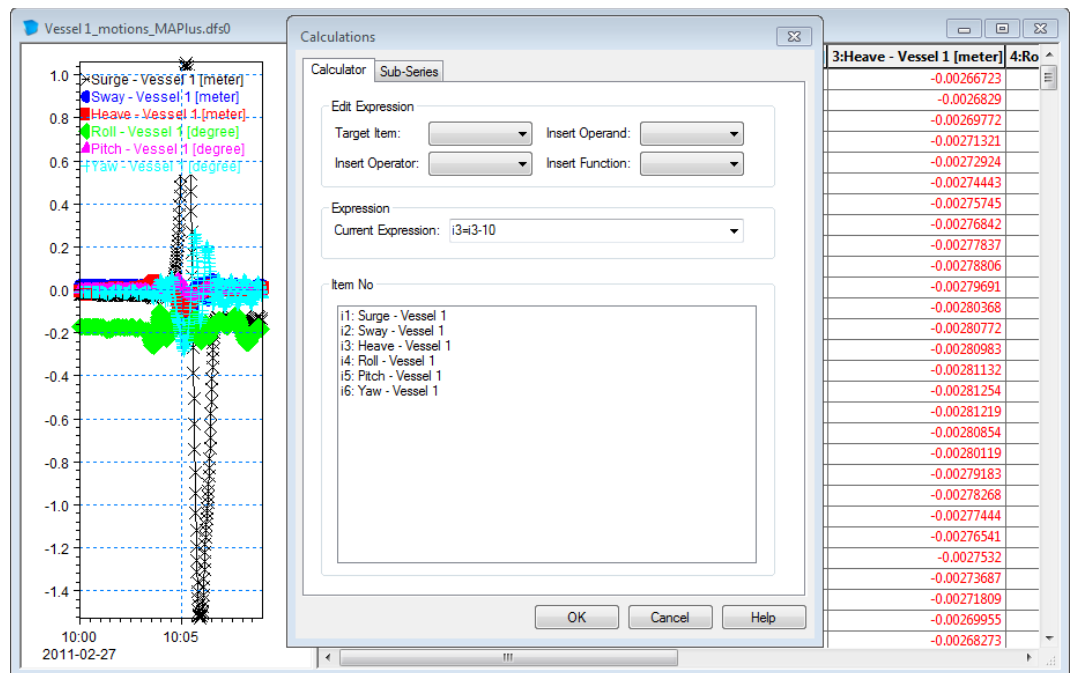

Figure 3-29 Modifying position of vessel to accommodate local coordinate system of 3Dsolid.
12. Subtract 10 m from the third item (Heave) to account for the Draft of the vessel, see Figure 3-29. Press OK and Save